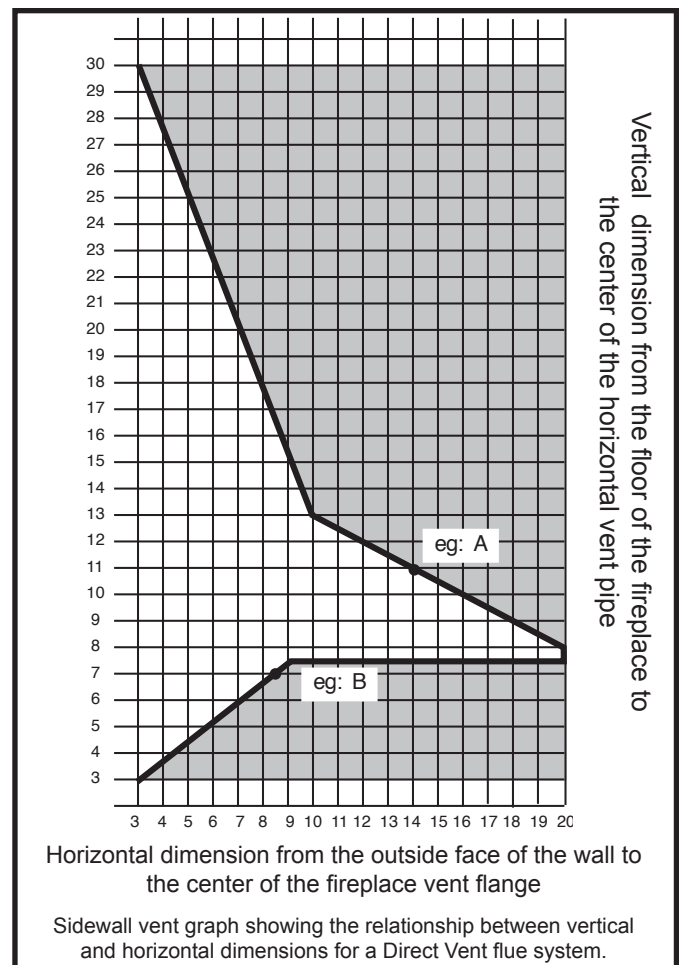

Fig. 12 Sidewall venting graph. (Dimensions in feet)
1. Determine the height of the center of the horizontal vent pipe exiting through the outer wall. Using this dimension on the Sidewall Vent Graph. (Fig. 12) locate the point intersecting with the slanted graph line.